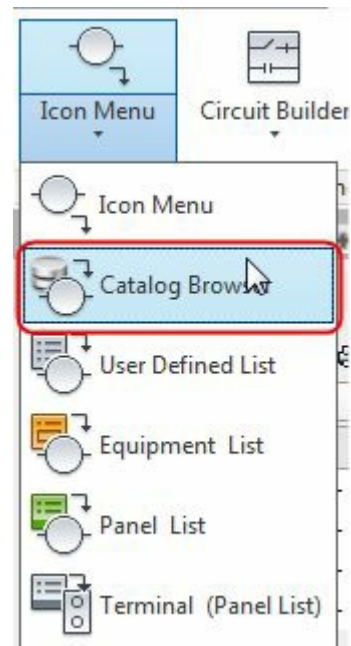
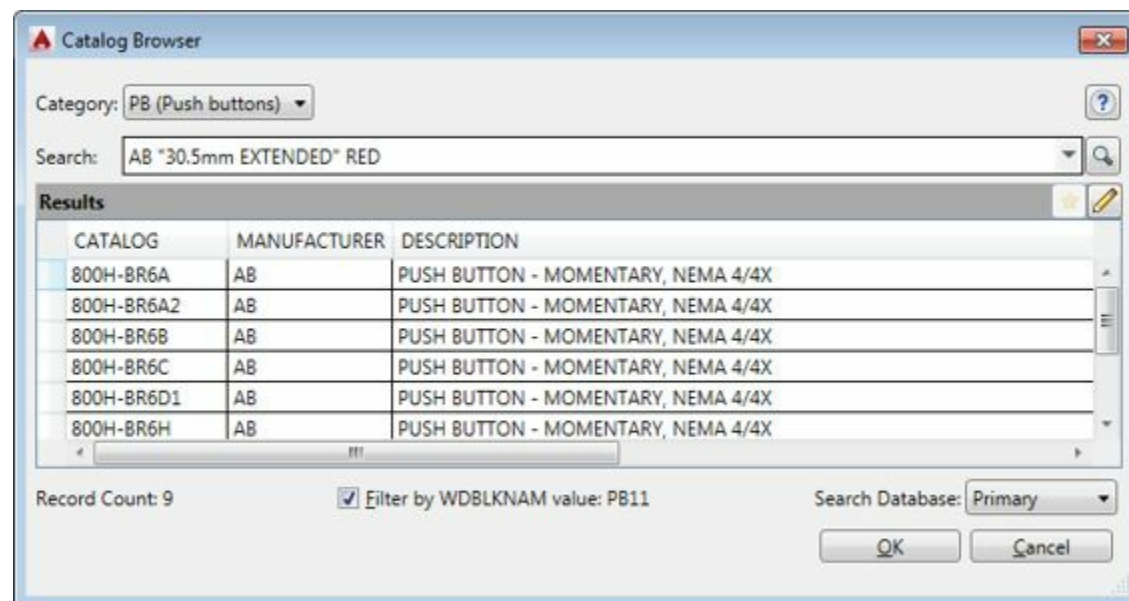

Figure-15. Catalog Browser button
Figure-16. Catalog Browser dialog box
- Click on the down arrow below **Icon Menu** button in the **Ribbon**, the Component drop-down will be displayed. Click on the **Catalog Browser** tool from the list; refer to Figure-15. The **Catalog Browser** will be displayed; refer to Figure-16.